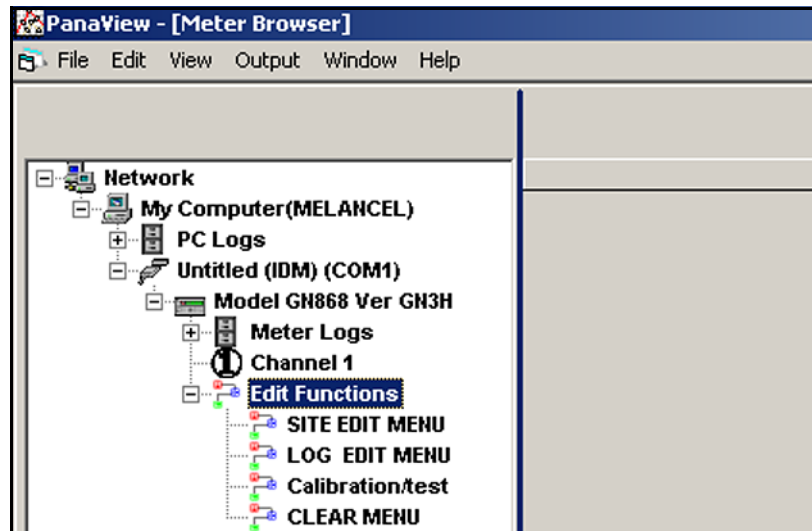

Figure 36: Meter Tree – Edit Functions Option
4. From the meter tree, expand the *Edit Functions* option. A screen similar to *Figure 36* below opens, with a list of available menus. The menus listed are those available on the meter.
**Note:** The options listed in the left pane correspond to the options available for the meter selected in *Figure 36* above.